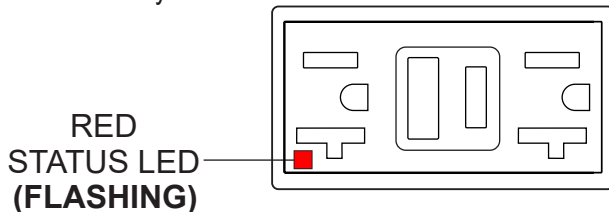

Figure 84. GFCI Receptacle (Red Flashing LED)
6. If the status LED (Figure 84) is **flashing (RED)**, **DO NOT** use the GFCI receptacle and replace it immediately.